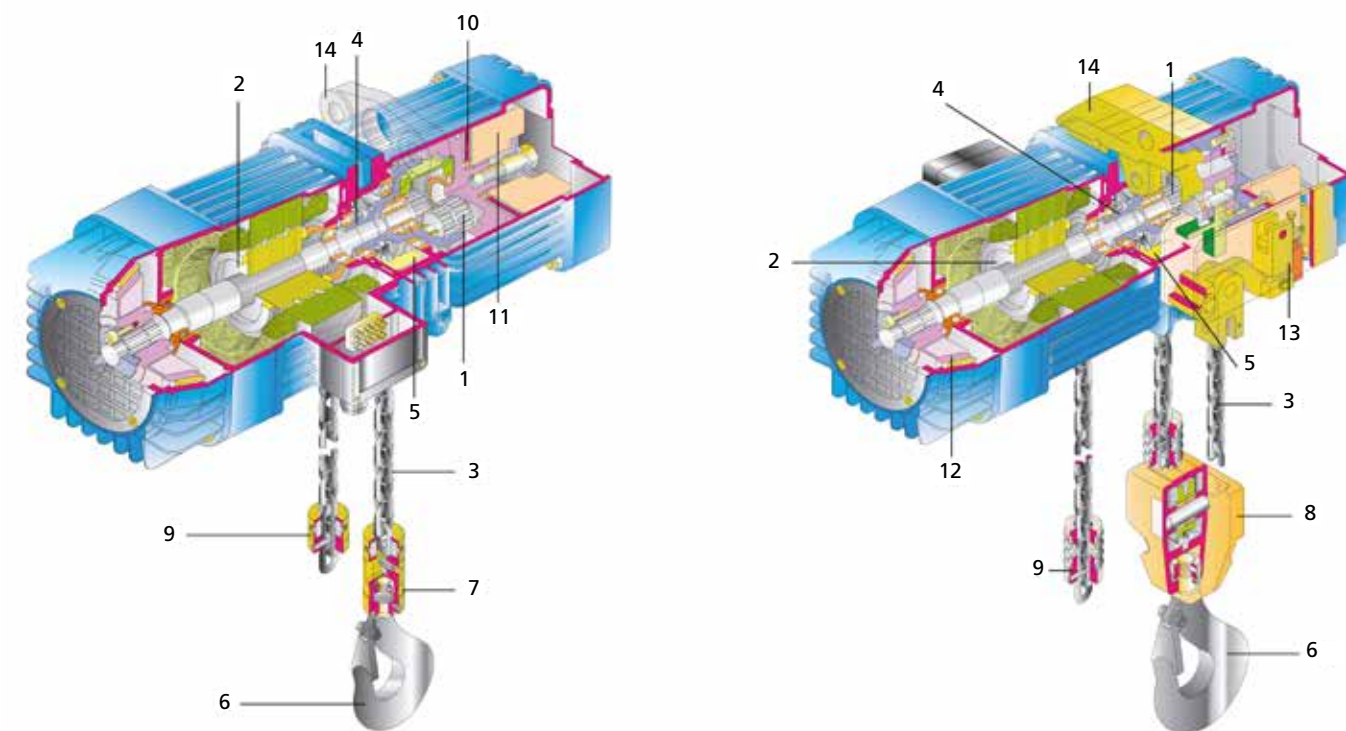

fig.5
2.1.3 THE PARTS OF THE DMK ELECTRIC CHAIN HOIST (fig. 5)